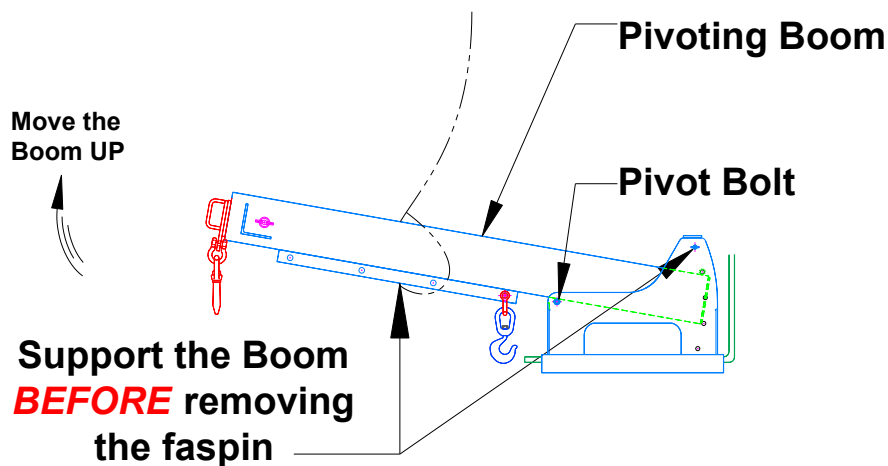

Figure 10
- Support the boom with a hoist or overhead crane, before removing the faspin, see figure 10.
- Move the pivoting boom up, slowly, with a hoist or overhead crane while the boom rotates on the pivot bolt, see figure 10.
- The load's center of gravity must be in alignment with the center of the hook, see figure 10.